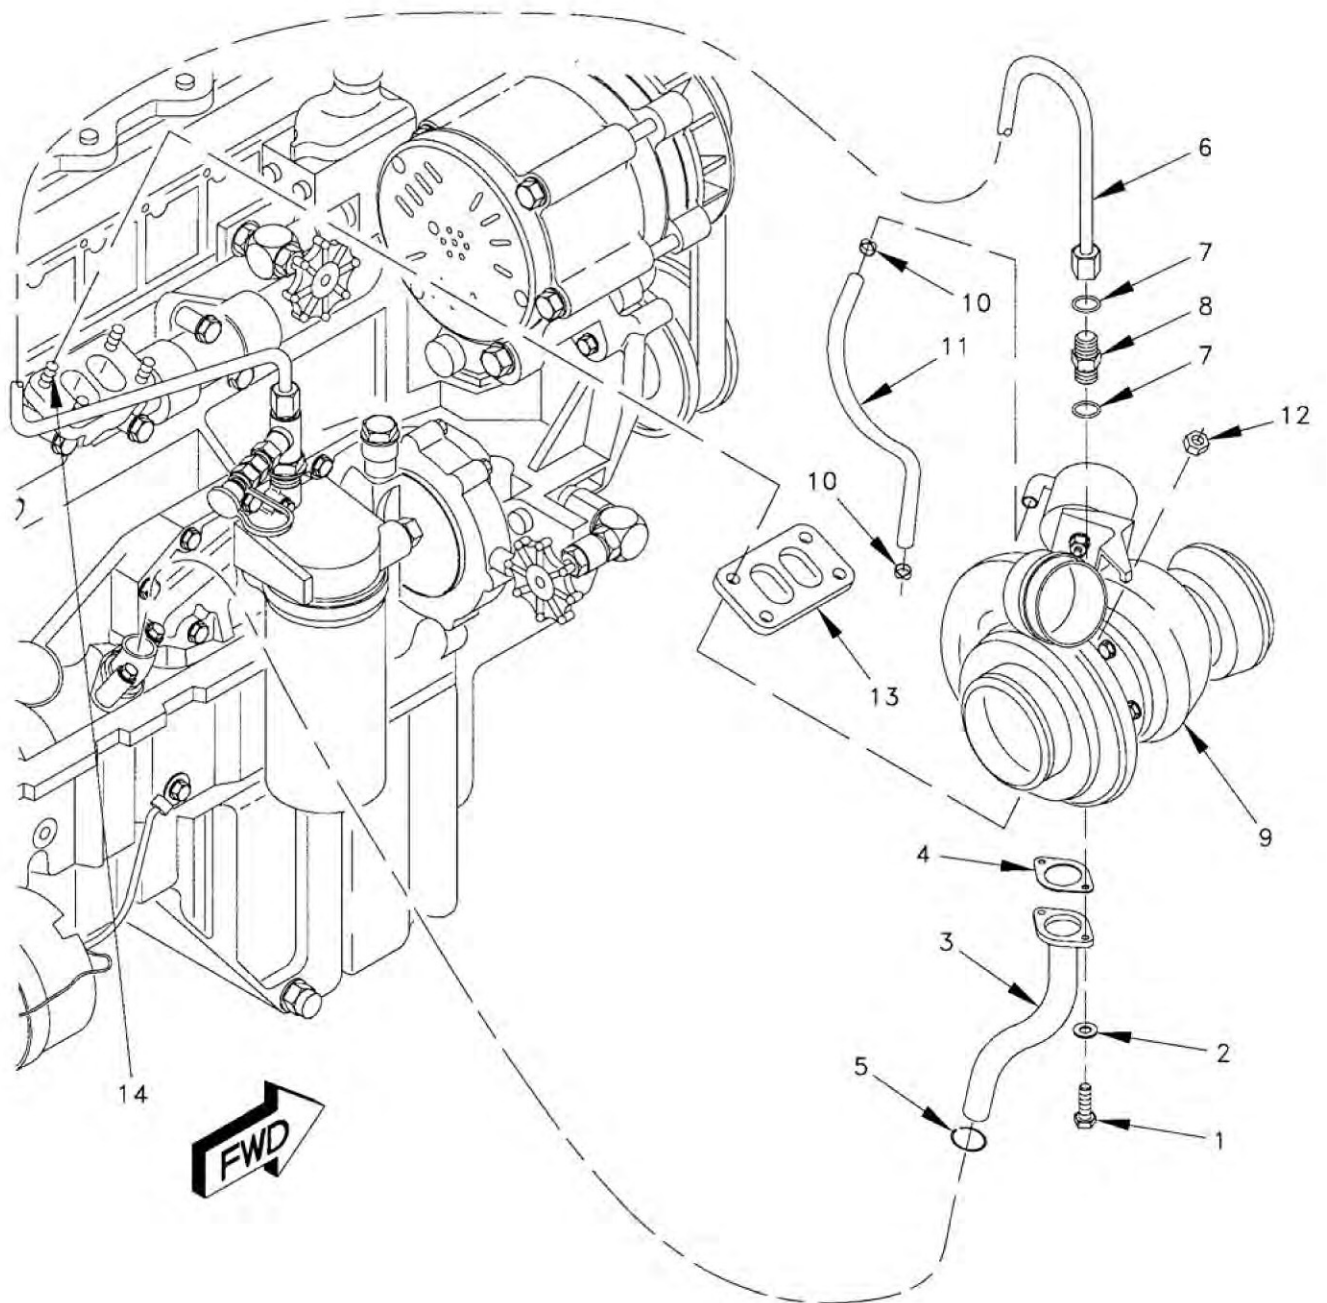

Figure 1. Turbocharger.
3. Loosen two hose clamps (Figure 1, Item 10) and remove hose (Figure 1, Item 11).
4. Remove four locknuts (Figure 1, Item 12), turbocharger (Figure 1, Item 9), and gasket (Figure 1, Item 13) from four studs (Figure 1, item 14) of engine block.
1. Apply anti-seize compound to threads of four studs (Figure 1, Item 14). Install gasket (Figure 1, Item 13), turbocharger (Figure 1, Item 9), and four locknuts (Figure 1, Item 12). Torque four locknuts to 36-44 lb•ft (49-60 N•m).
2. Install hose (Figure 1, Item 11) and tighten two hose clamps (Figure 1, Item 10).
3. Install two O-rings (Figure 1, Item 7) and connector (Figure 1, Item 8) on turbocharger (Figure 1, Item 9), and connect tube (Figure 1, Item 6).
4. Install seal (Figure 1, Item 5), gasket (Figure 1, Item 4), tube (Figure 1, Item 3), two washers (Figure 1, Item 2), and screws (Figure 1, Item 1). Torque screws (Figure 1, Item 1) to 15-25 lb•ft (20-34 N•m).